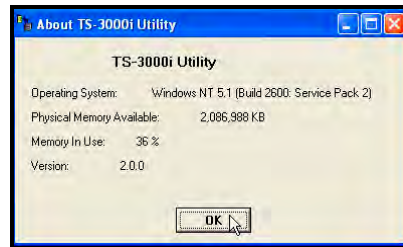

Figure 5-23. TS-3000i Utility About.
- **About** – Use this function to display the About screen (see *Figure 5-23*). Click on the **OK** button to close.